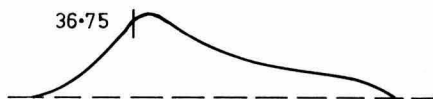

FIG. 9.
7. Insert trap plug in position "0" and connect sweep to IF Test Point on tuner. Connect low impedance detector probe (see circuit diagram) and C. R. O. to pin 2 of V6 (6EH7). Adjust IFT 1A on tuner for the response as in Fig. 9.